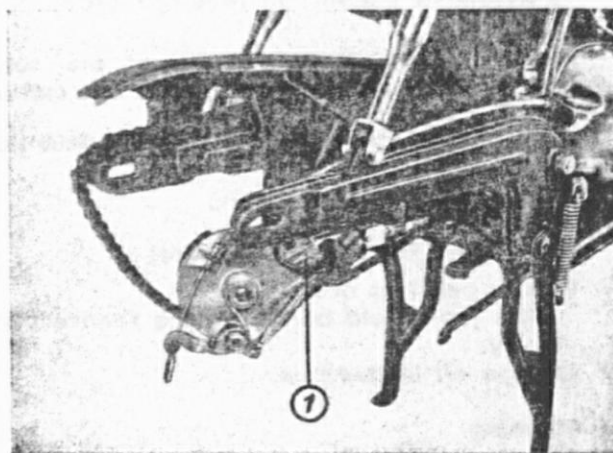

Fig. 23: Chain and brake back plate after removal of rear wheel
3. Put chain over the end of the swing fork arm (Fig. 23), do not allow it to drop to the ground.
Proceed in reversed order of dismantling. When installing the stub-axle do not forget to pass it through the eyes of the chain tensioning screws. Fit brake stop bolt on the right-hand fork arm into recess on the brake back plate (Fig. 23, No. 1).